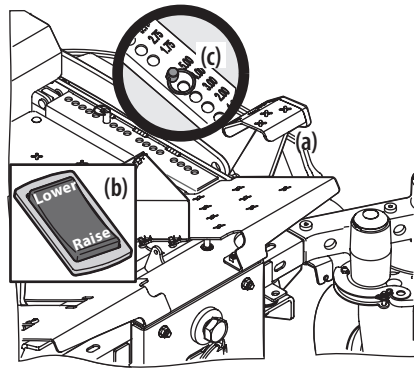

Figure 30
1. Use the deck lift pedal (a) or push down on the back of the electric deck lift switch (b) to raise the deck to its highest position, place the clevis pin (c) attached to the mower into the desired index hole on the deck height index, then slowly release the deck lift pedal (a) or slowly lower the deck by pressing down on the front of the electric deck lift switch (b). See Figure 30.